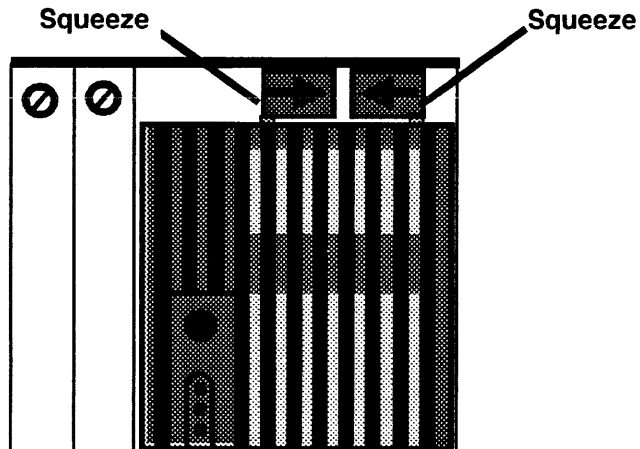

Figure 1. Unlatching the Rear Cover
3. Press the two rear cover tabs towards each other to release the cover (Figure 1).